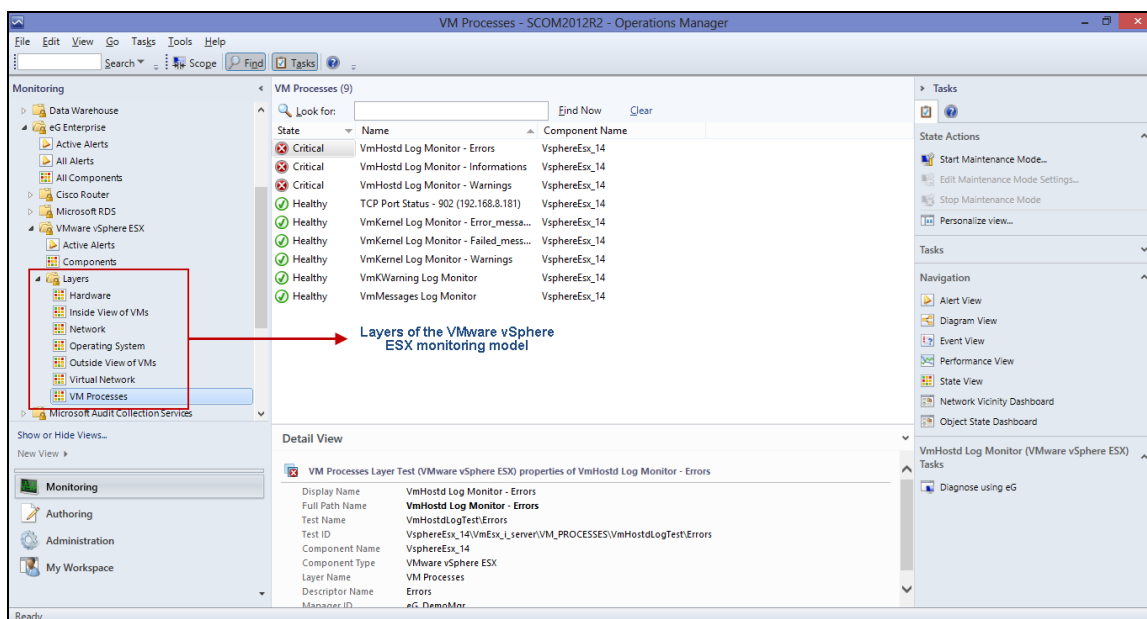

Figure 4.18: Viewing the layers as sub-nodes of the 'Layers' node
10. Then, click on a layer in the tree-structure. Upon clicking, all the tests mapped to that layer, the descriptors they support (if any), and the current state of each test will be available in the right panel (see Figure 4.18). Clicking on a row of information here will provide complete details of the test and descriptor in the **Detail View** below.
11. If a test is in a **Critical** or **Warning** state, you may want to know which measure of that test reported the abnormal measures and why. To zoom into the root-cause, you may want to launch the eG monitoring console from the SCOM console itself. For that, click on the **Diagnose using eG** option in the **Actions** pane of Figure 4.18. This will launch the eG monitoring console, where the complete layer model of the VMware vSphere ESX server will be displayed, and the problem layer, test, and measurement highlighted.